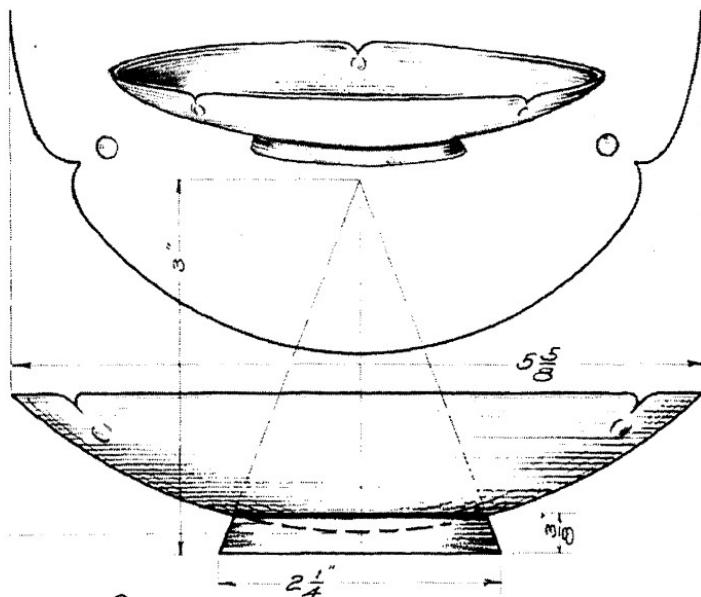

FIG. 1
1. Prepare a mold (birch) with the contour of the dish (Fig. 1).